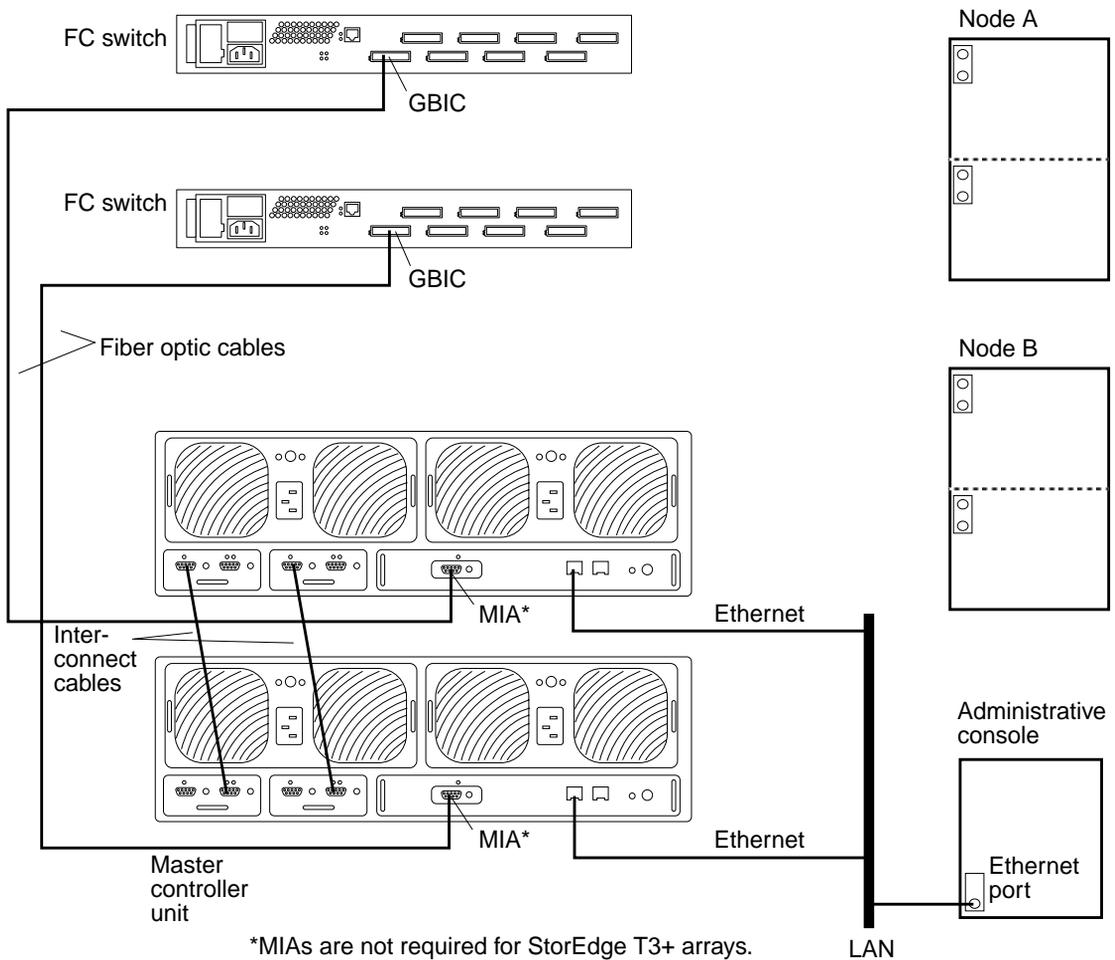

FIGURE 9-2 Adding Sun StorEdge T3/T3+ Arrays, Partner-Group Configuration
Note – Assign an IP address to the *master* controller unit only. The master controller unit is the array that has the interconnect cables attached to the right-hand connectors of its interconnect cards (see FIGURE 9-2).
2. **Install the Ethernet cable between the arrays and the local area network (LAN) (see FIGURE 9-2).**
3. **If not already installed, install interconnect cables between the two arrays of each partner group (see FIGURE 9-2).**
Install the media interface adapter (MIA) in the StorEdge T3 arrays you are adding, as shown in FIGURE 9-2.
13. If necessary, install GBICs in the FC switches, as shown in FIGURE 9-2.
14. Install a fiber optic cable between each FC switch and both new arrays of the partner-group, as shown in FIGURE 9-2.